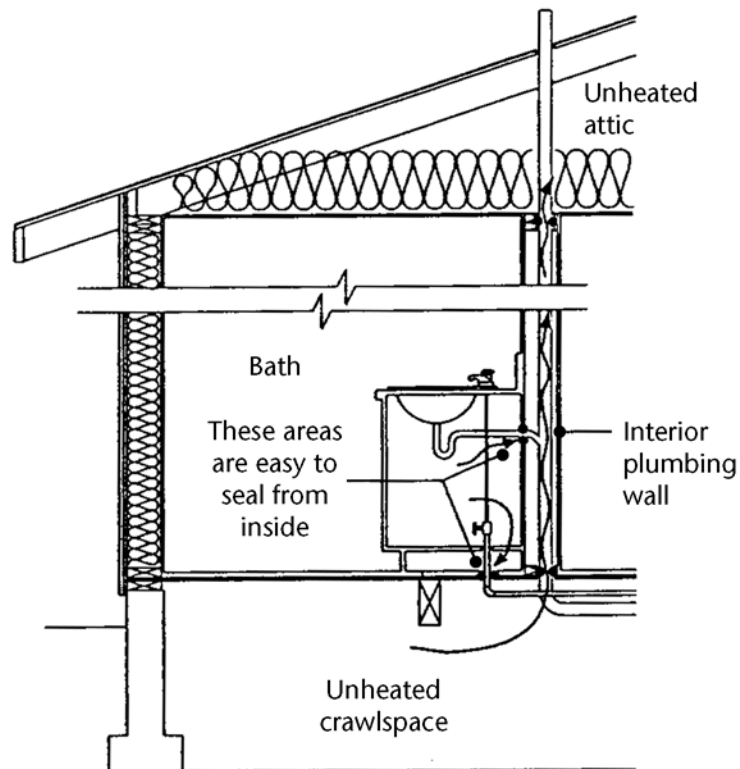

Figure 5-3
**Wiring and Plumbing Penetrations.** Holes drilled in top and bottom plates (between heated and unheated spaces) need to be sealed. Plumbing penetrations often leave large holes requiring sealing (see Figure 5-3).